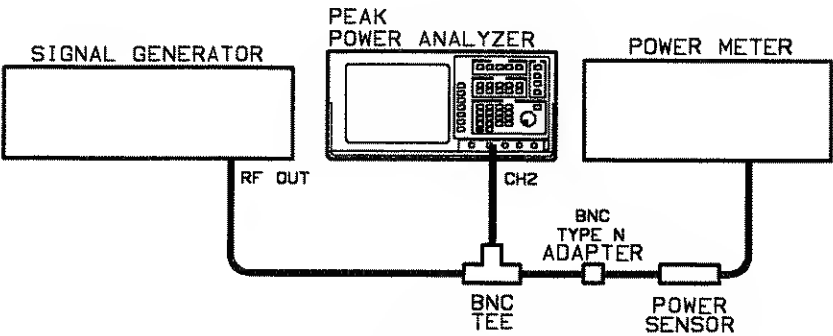

Figure 4-7. Checking Bandwidth Equipment Setup
1. Connect the equipment as shown in Figure 4-7.